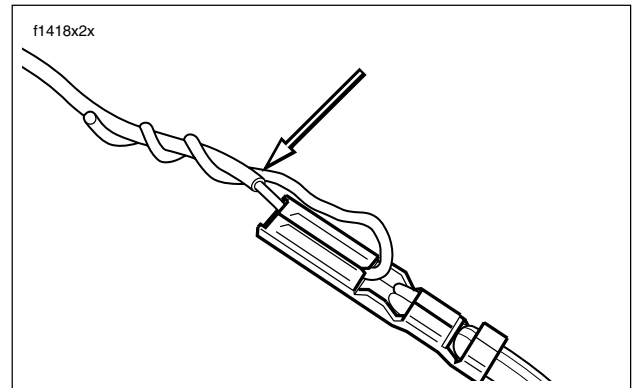

Figure 8-2. Fix Mechanic's Wire to Socket Terminals
5. See Figure 8-2. Obtain equal lengths of string flexible wire for use as mechanic's wire. Feed wire through opening in socket terminal and then loop back twisting end until tightly coiled around longer strand. Repeat step with remaining socket terminals.
2. See Figure 8-2. Attach mechanic's wire to socket terminals and carefully pull ends of mechanic's wire to draw socket terminals back through mounting bracket and conduit.